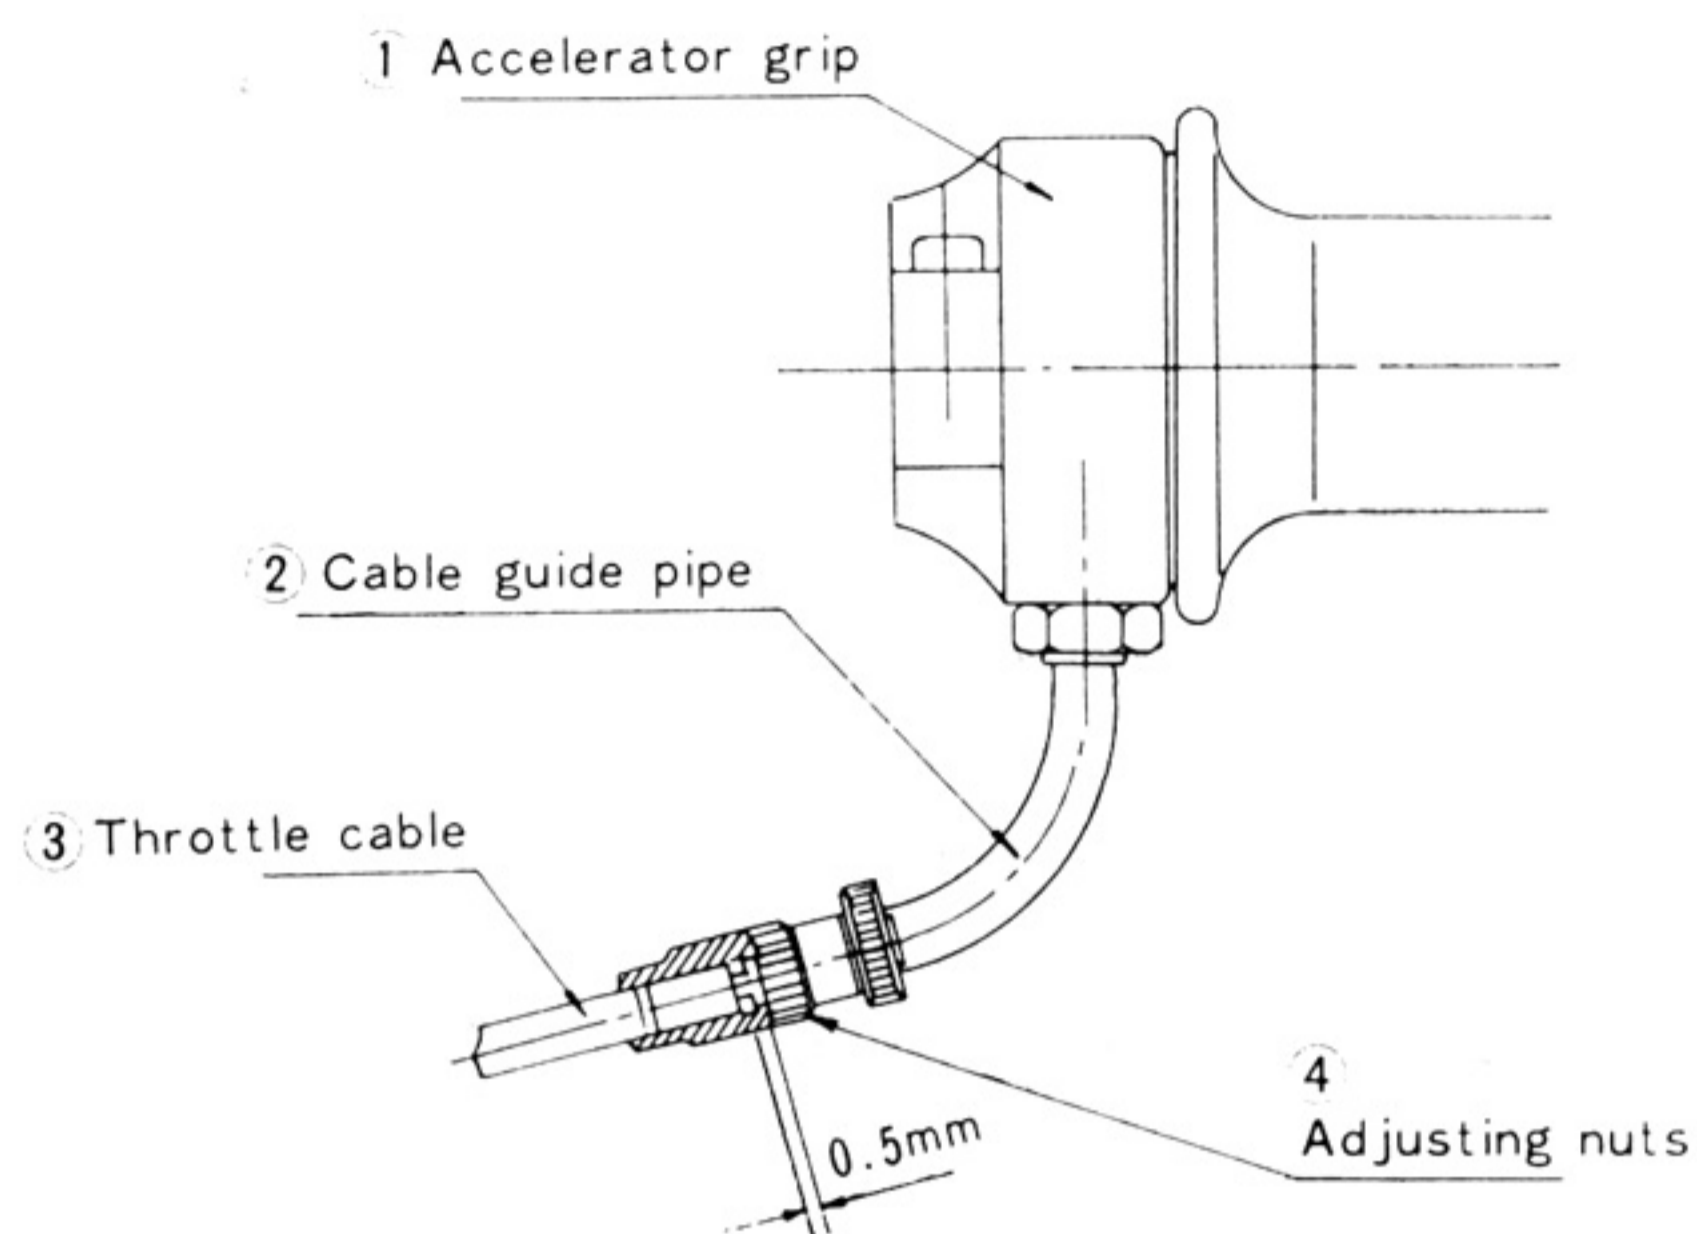

Fig. 2-2-3
- b. Adjust the play of the throttle cable connected to the handle grip to 0.5–1.0 mm by turning the adjusting nut to the cable guide pipe. (Fig. 2-2-3)
- ① Handle grip
- ② Cable guide pipe (A)
- ③ Throttle cable
- ④ Adjusting nut
- (3) After adjusting the throttle cable, set the pump correctly.